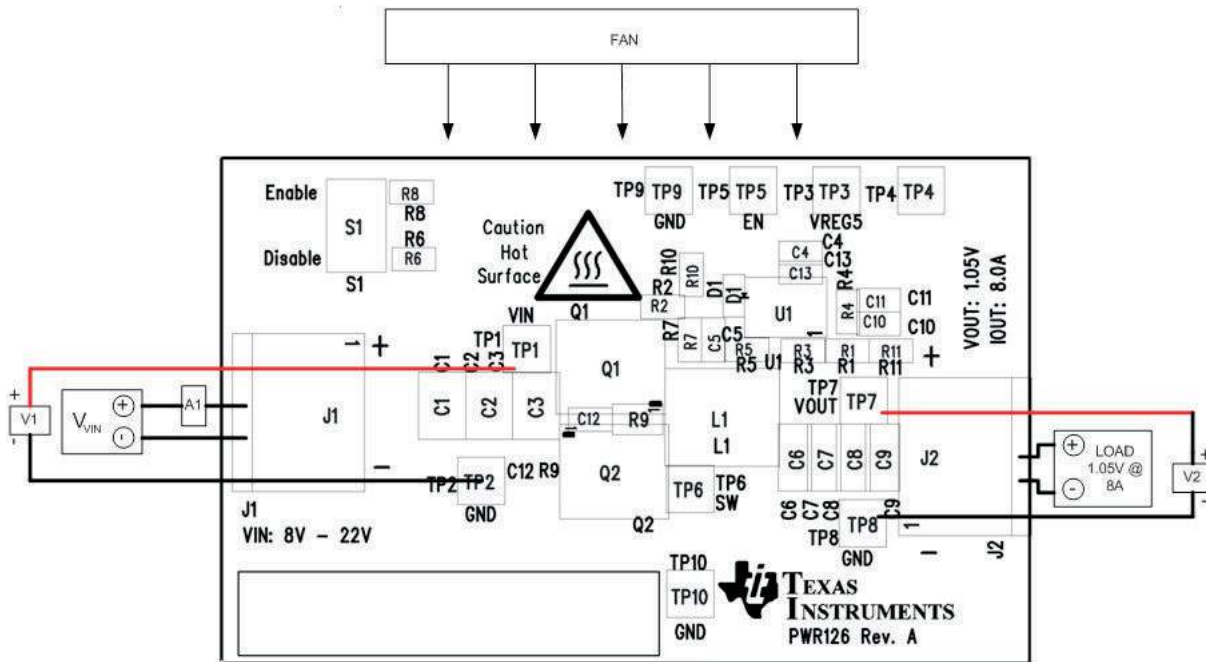

Figure 5-2. TPS53014EVM-126 Recommended Test Setup
- **VIN:** The input voltage source, V_{IN} , should be a 0-V to 30-V variable DC source capable of supplying 2 A_{DC} . Connect V_{IN} to J1 as shown in Figure 5-2.
Figure 5-2 is the recommended test setup to evaluate the TPS53014EVM-126. Working at an ESD workstation, make sure that any wrist straps, bootstraps, or mats are connected referencing the user to earth ground before power is applied to the EVM.
- Prior to connecting the DC input source V_{IN} , it is advisable to limit the source current from V_{IN} to 2-A maximum. Make sure V_{IN} is initially set to 0 V and connected to J2 as shown in Figure 5-2.
Other Connections: Place a fan as shown in Figure 5-2 and turn on, making sure air is flowing across the EVM.
1. Set up the EVM as described in Section 5 and Figure 5-2.